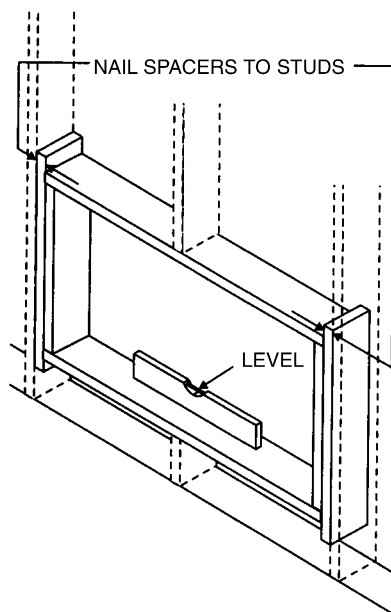

FIGURE 22 — FRAME INSTALLATION
10. Install wooden frame into hole in wall. Make sure frame is properly secured. Fill in the space between the frame and the studs with wood shims (spacers). Nails spacers to studs. If required, provide studs around entire frame to reinforce stability of wall. See Fig. 22.